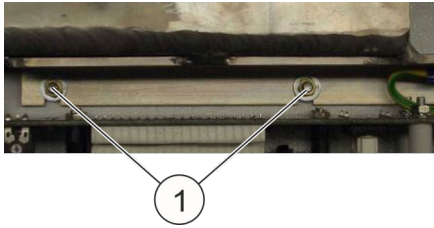

Fig. 93: Tank fastening
14. ➤ Remove the M3 nuts (Fig. 93/1) of the tank fastening with a 5.5 mm socket wrench.